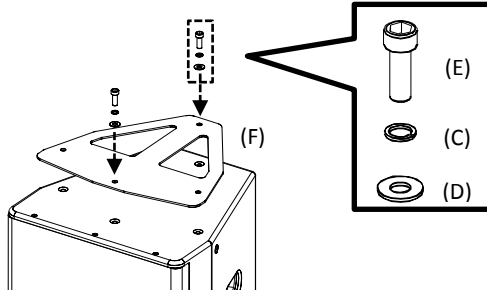

Fig.3-2-1-B
- (1) Remove the pre-inserted mounting screws from the top of enclosure. The number of screws to be removed from XY-81/101/122 is 2 (The location is shown in Fig.3-2-1-A) and from XY-152 is 4.
NOTE: In addition, Using the supplied two M10 socket head bolts(E), align the mounting holes in the load plate(F) with the mounting point on the top of the enclosure. Tighten the bolts over 15N·m torque. (Fig.3-2-1-B)
- (2) Using the supplied two bolts(B), align the mounting holes in the inner yoke of the Vertical Flying Cradle(A) with the mounting points on the top of the enclosure. The installation method depends on the model you use. Please follow the steps below for further details when installing such a model. (Fig.3-2-1-C)